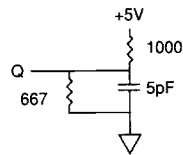

Fig. 2 OUTPUT LOAD EQUIVALENT
- ¹HZCS, ¹HZOE, and ¹HZWE are specified with CL = 5pF as in Fig. 2. Transition is measured ±500mV from steady state voltage.